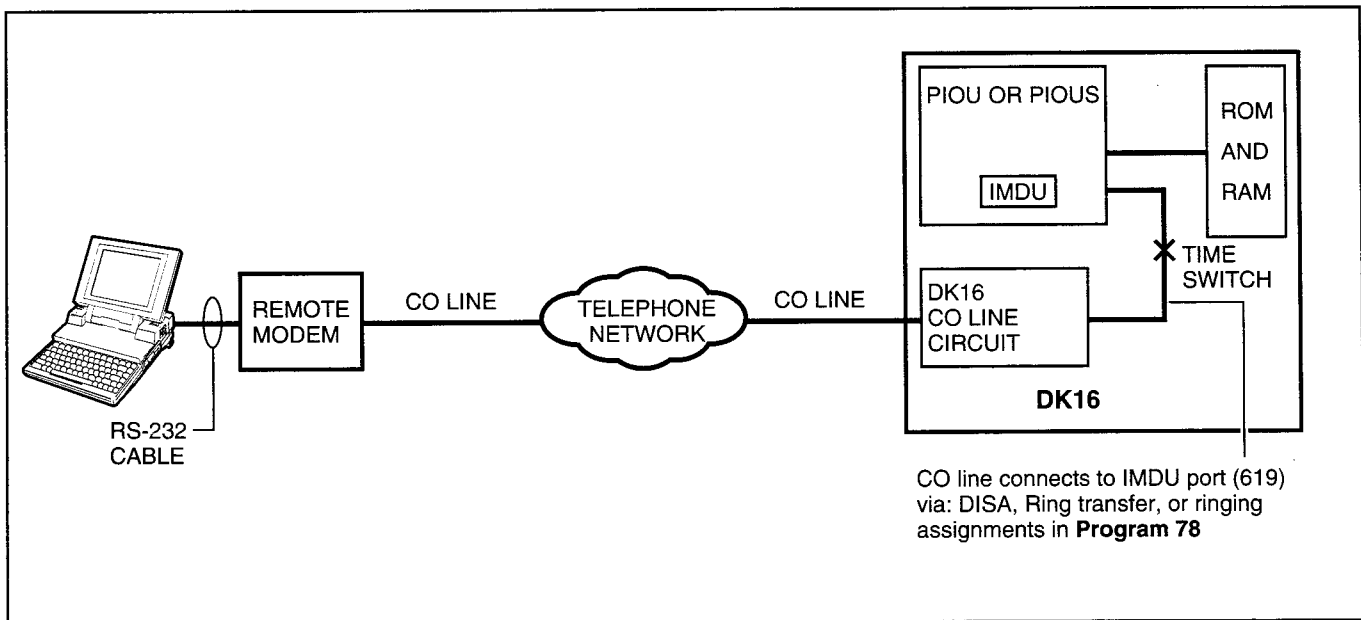

FIGURE 4
- With the DK16, the IMDU modem (300 or 1200 baud full-duplex) can be connected to the DK16 PIOU or PIOUS to allow system programming and testing to be accomplished from a remote location (Figure 4).
4.31 **DK16 IMDU Maintenance Modem (Figure 4).** The IMDU mounts on the PIOU or PIOUS PCB and provides 300 or 1200 bps, full-duplex communication for remote maintenance (seven bits, even parity, one-stop bit). If the IMDU is employed, a dedicated CO line or standard telephone port is not required. Connection of the remote maintenance terminal is through existing system CO lines via intercom number 619. Refer to the PIOU or PIOUS portion of Section **200-816-205** for hardware installation and programming requirements.